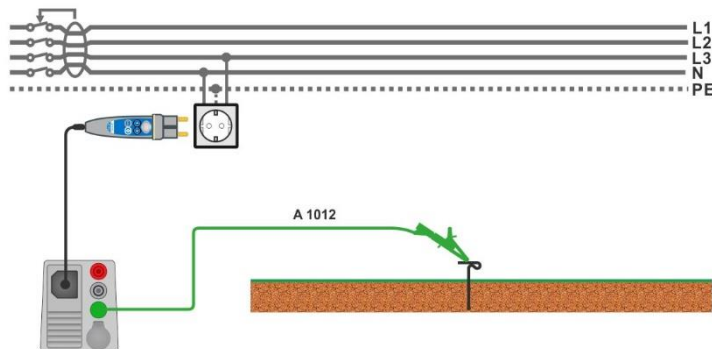

Figure 7.35: Connection for $U_c(P)$ measurement
For connection see **Figure 7.35 Connection for $U_c(P)$ measurement**.
- › Connect test lead to P/S terminal and external earthed point (optional, see **Figure 7.35**).